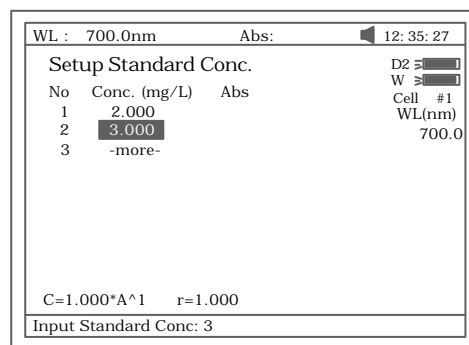
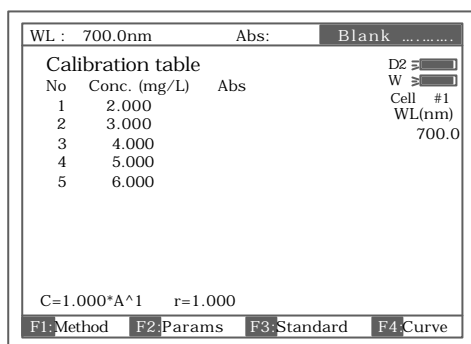

Fig 31
Fig 32
3.3.1 Enter standard concentrations of samples by pressing the Numeric keypad followed by **[ENTER]**. Press **[]** or **[]** to modify the inputted data Fig31. Press **[ESC/STOP]** to finish inputting and to exit Fig 32.
3.3.2 Push the blank cuvette into the light path, press **【0Abs/%100T】**, the instrument will step to the wavelength and blank. See Fig 32.